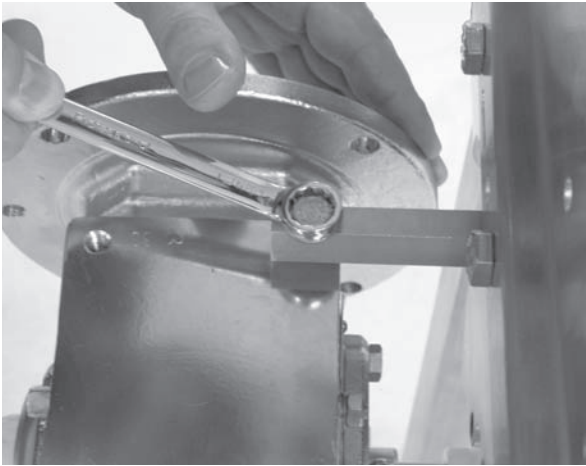

Figure 56
4. Unbolt the drive assembly and slide it off the bearing spindle (**Figure 56**).